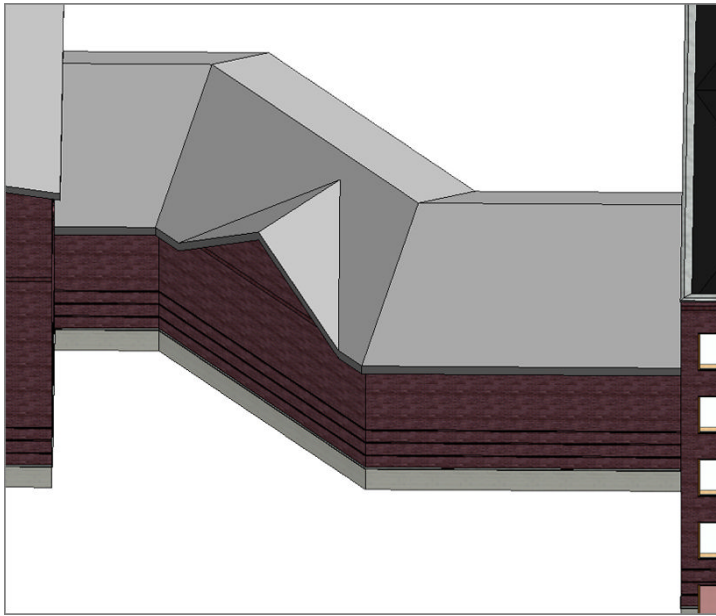

FIGURE 7.64: The completed roof dormer
- 10. Go to a 3D view to check out the dormer. It should look identical to Figure 7.64.